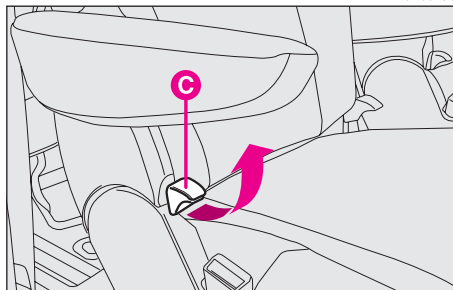
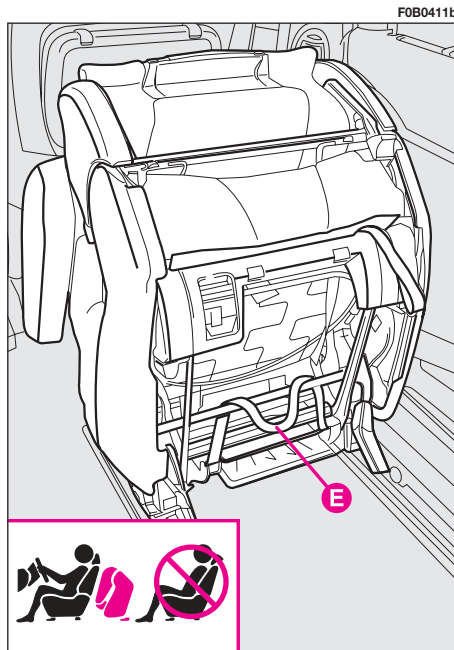

fig. 33
fig. 36
TO ADJUST THE RECLINING SEAT BACK fig. 33
To use the side seat back as a supporting plane (“table” position), operate release lever **C**-fig. 33 and guide the seat to the cushion.
Operate release lever **C-fig. 33** and guide the seat back until the “table” position is reached; then turn the tipped seat again until the “wallet” position illustrated in **fig. 36** is reached.
When the second row seat is tipped in “wallet” position, it is not possible to transport passengers on the third row seats, as illustrated on label fig. 36 placed on the seats themselves. This is a precaution to avoid any risk of contact with the articulation mechanisms of the seat itself.
To get at the rear seats (third row), lift lever **C-fig. 33** from the outside and tip the whole seat forward.
– operate release lever **C**-fig. 33 and guide the seat back until the “table” position is reached; turn the tipped seat again until the “wallet” position is reached **fig. 36**;